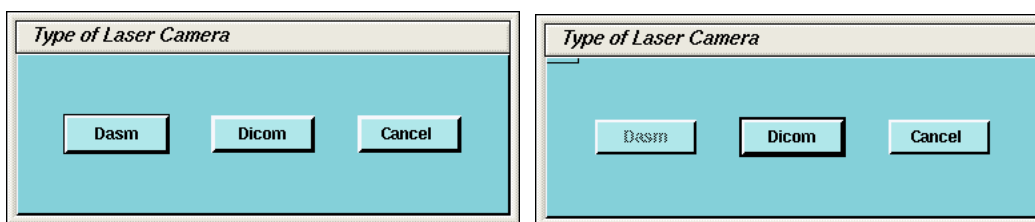

Figure 9-9 Dialog Box for camera Type (with and without DASM)
- b.) A dialog window for the camera type (DASM/DICOM) is displayed. If no DASM is detected during the OC boot, the DASM button is disabled (see Figure 9-9). If a DASM is present and is not detected, reboot the OC and run the camera configuration tool again.